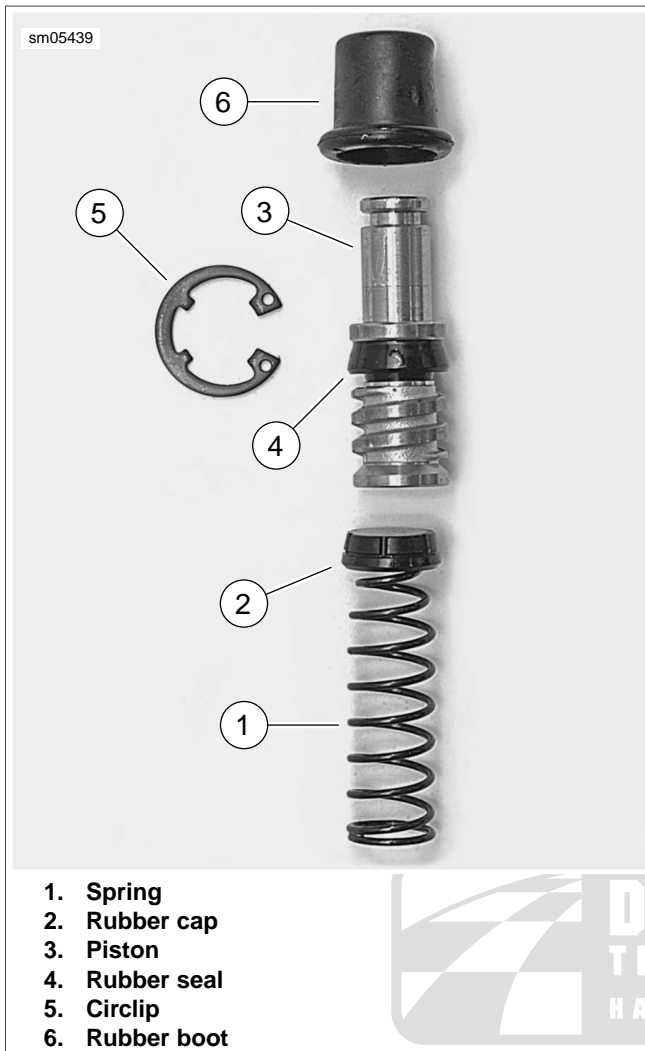

Figure 2-41. Piston Set
4. See Figure 2-41. Insert the spring (1) with cap (2) into master cylinder bore.
5. Insert the piston (3) with seal (4).
6. Secure the piston with circlip (5).
7. Fit rubber boot (6) over the piston and work the top ridge on the rubber boot into the groove in the piston.